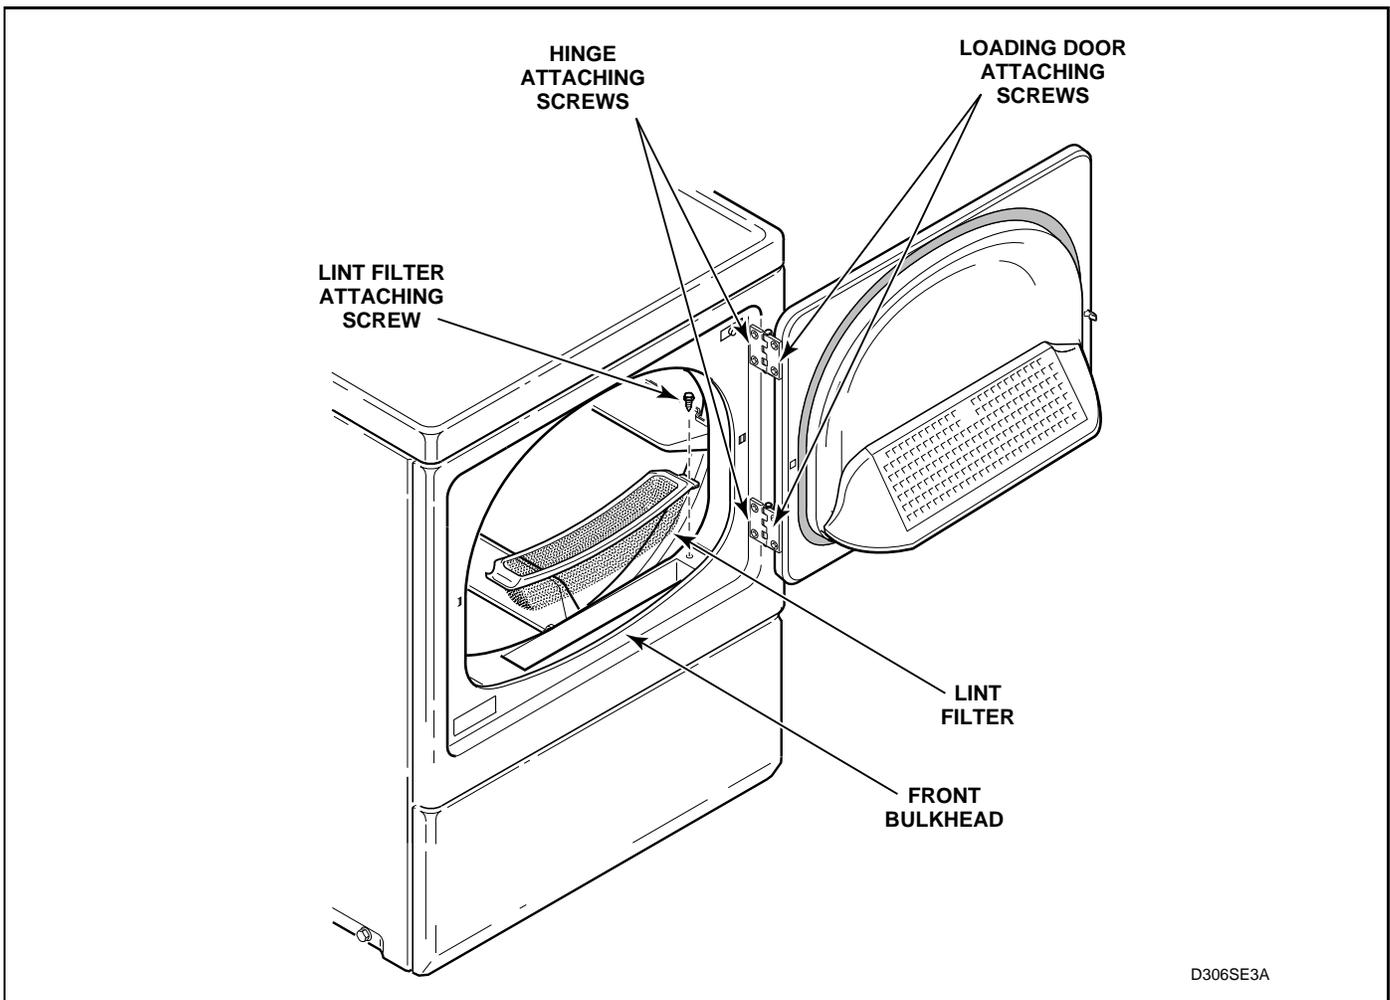

Figure 29
32. LINT FILTER (Figure 29)
- Remove screws holding loading door to hinges. See Figure 29.
- a. Remove four screws holding door assembly to hinges. See *Figure 29*.